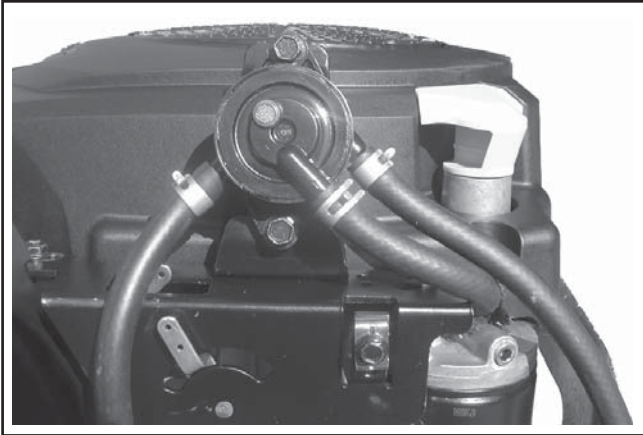

Figure 5-1. Pulse Fuel Pump.
Some engines are equipped with an optional pulse fuel pump. See Figure 5-1.
2. Connect the inlet, outlet, and pulse lines to their respective fittings on pump. Secure with the clamps. See Figure 5-1.